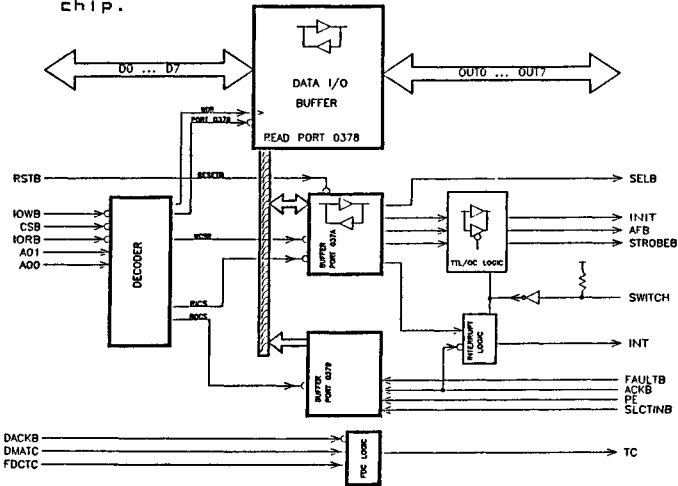

Figure 1.
1.1 The Tandy part# 8075068 - Printer Interface I.C provides the interface between the system I/O bus and the printer. Figure 1 shows Block diagram of Printer Interface chip. Figure 2 shows pin configurations of Printer interface chip.